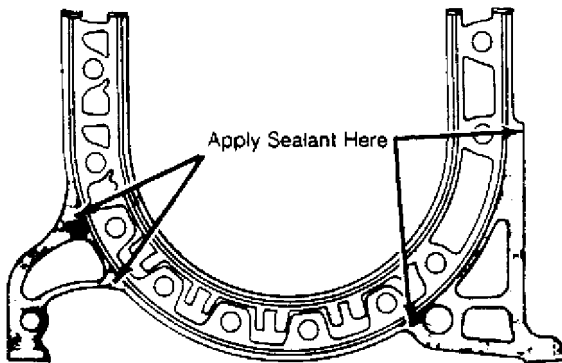

Fig. 22: Applying Sealing Agent to Rotor Assembly
1) As front and rear rotor housings are not interchangeable, be sure they are installed in correct sequence. Apply sealing agent to front side of rotor housing. See Fig. 22.
6) Apply sealing agent on the rear side of front housing in areas shown in Fig. 22 and then place new "O" ring, sealing rubbers and protector on rear side of front housing. Apply engine oil to sliding surfaces of front rotor housing.